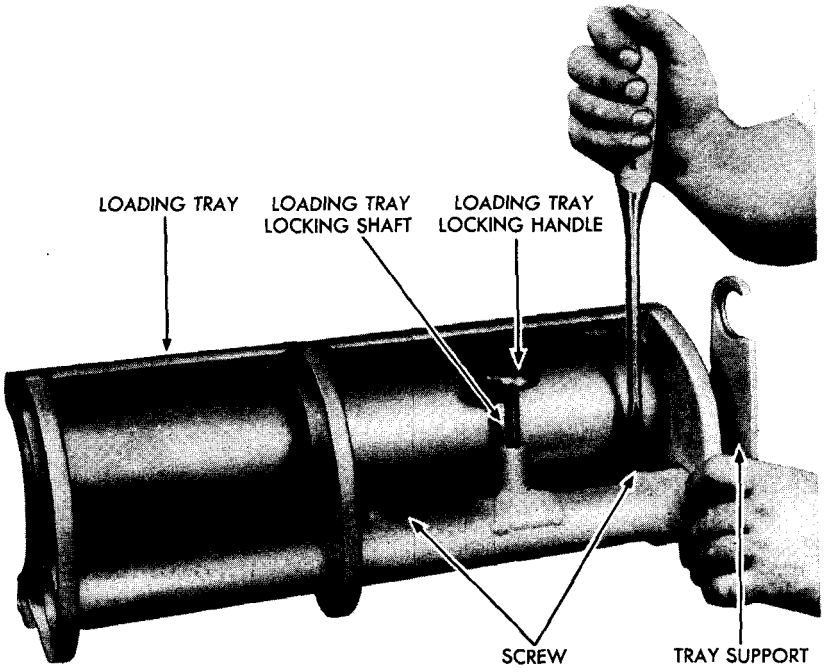
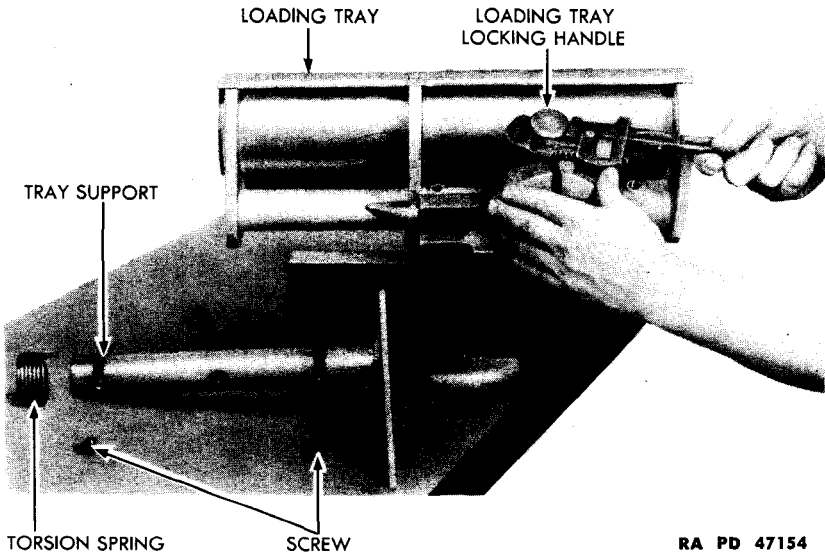
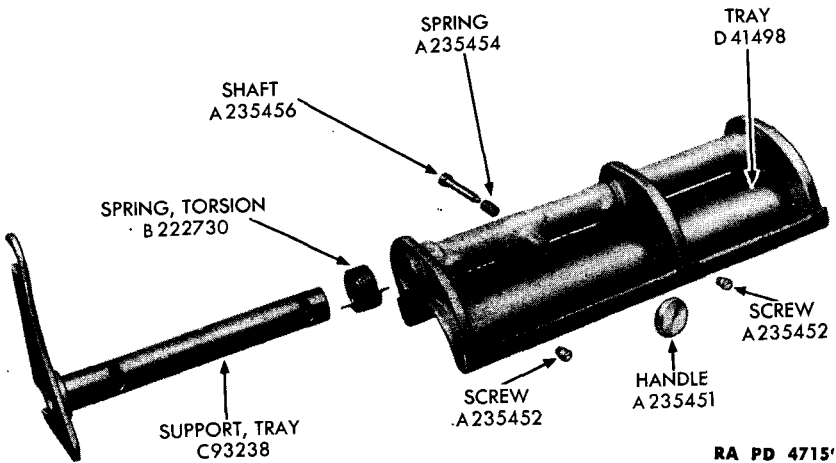

Figure 36 — Removal of Loading Tray Support
Figure 37 – Removal of Loading Tray Locking Handle
Figure 38 – Loading Tray Assembly – Exploded View
i. Disassembly of Loading Tray Assembly. Remove two screws that prevent horizontal movement of loading tray on tray support (fig. 36). Pull loading tray locking handle and loading tray locking shaft outward to disengage shaft from hole in tray support, then slide tray support and torsion spring from tray (fig. 38). Slide torsion spring from its position on tray support. Secure shaft in vise equipped with copper jaws and unscrew handle from shaft (handle (fig. 37) is staked to shaft). Remove tray and shaft from vise, then slide shaft and spring out of tray.
k. Inspection and Repair of Loading Tray (fig. 38).